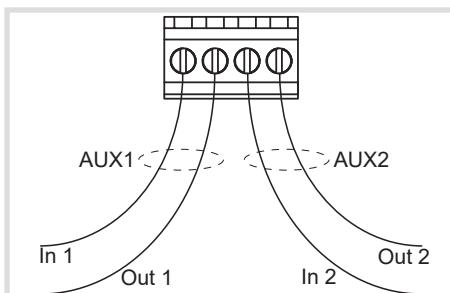

Figure 6: Connecting terminal (AUX) for external signal generator
- Press the operation button (3) to acknowledge the water leakage alarm.
- The acoustic signal and flashing status LED (5) went out.
The device has two potential-free contacts AUX1 and AUX2 (figure 6) e.g. that a KNX radio binary input can be connected to. In this way, for example, an alarm signal can be sent to the KNX bus. The alarm signal remains activated until the alarm (see Hazardous situation, water leakage) is acknowledged by pressing the button (3) on the sensor unit. The wiring of the potential-free contacts and their meaning is shown in table 3.
- Connect cooker supply cable 1-phase (17) to the connection terminals **IN** (22/23/29) of the power control unit. When doing so, first connect the earth conductor.
- Insert the connection cable (30) through the cable entry (10).
- Fix strain relief (26).
- Connect the connection cable 1-phase (30) to the connection terminals **OUT** (22/23/28) of the power control unit. When doing so, first connect the earth conductor.
- Optional: Insert water leakage sensor into the connection socket (12) of the power control unit (9) (see Mounting Water Leakage Sensor).
- Fasten casing cover (13) using the fastening screws (14) on the lower casing.
- Optional: Connect external signal generator to potential-free contact (18) (Figure 6).